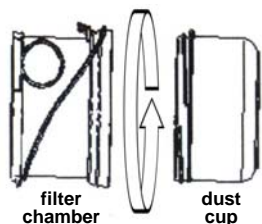

Fig. 8
3. Rotate the lower dust cup clockwise to separate it from the filter chamber. Empty and clean the dust cup. (Fig. 8)